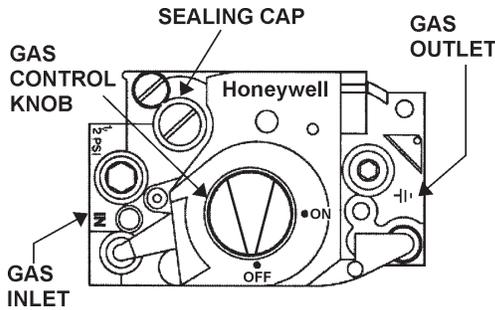

FIGURE 13
Figure 13 shows the type of combination manual gas control valve and regulator used on these heaters.
3. Remove the regulator adjustment sealing cap, fig. 13, and adjust the pressure by turning the adjusting screw with a screwdriver.